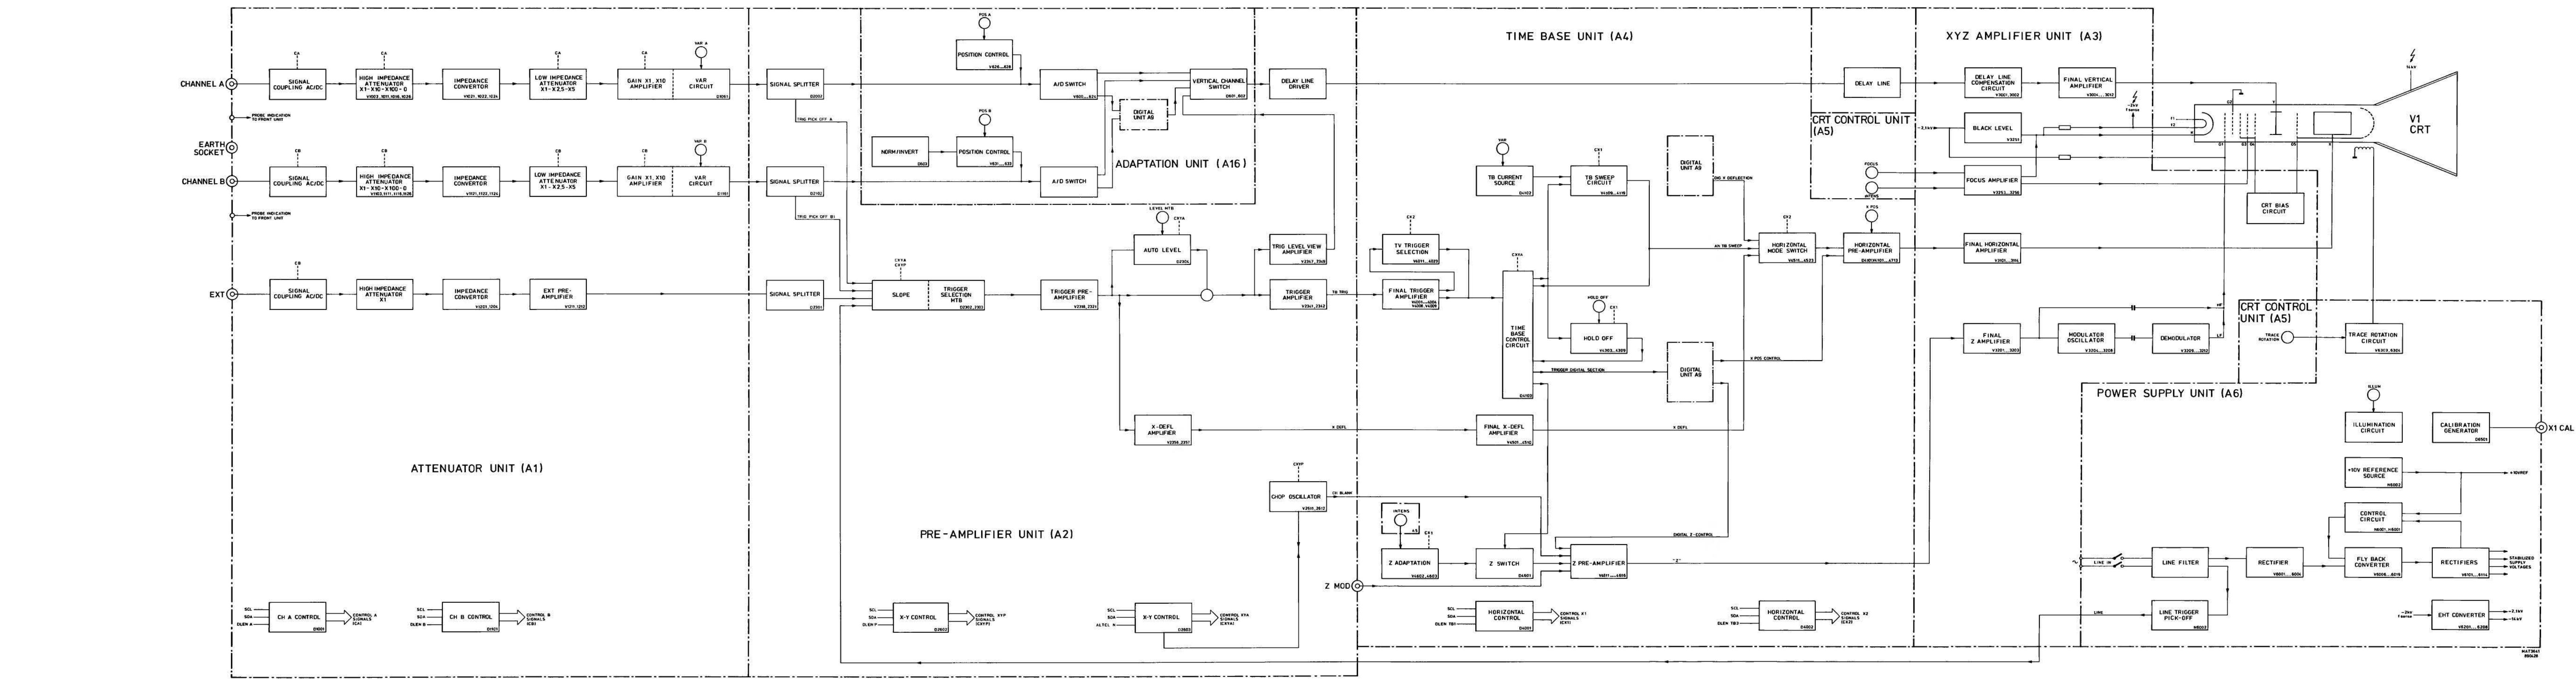

Figure 3.1 Block diagram, analog part
3.2 BLOCK DIAGRAM DESCRIPTION (see figure 3.1 and 3.2)